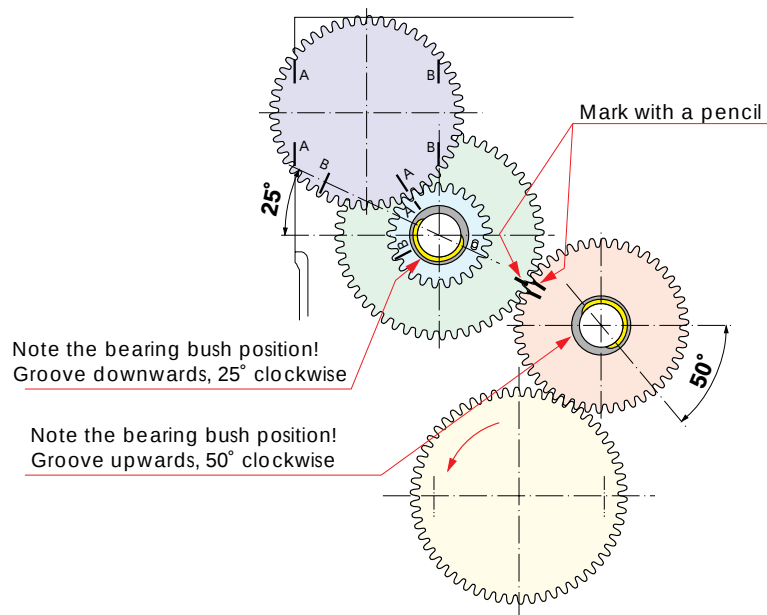
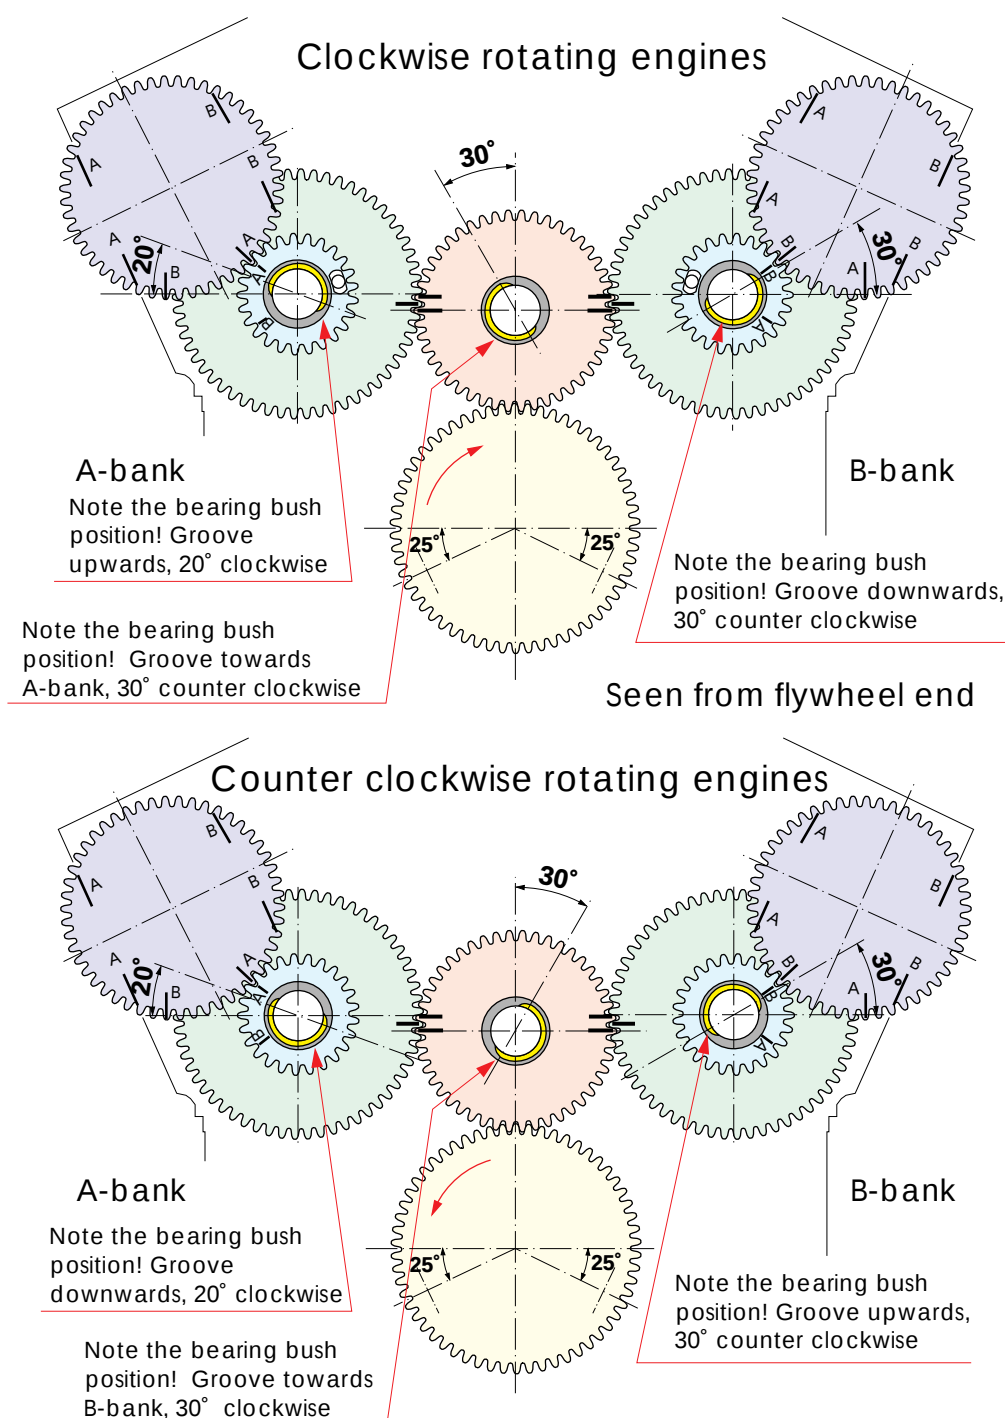

Fig 13-2
Fig 13-3
Note! Insert the intermediate gear wheels and bearing bushes according to the marking of the wheels, see Fig 13-2 and Fig 13-3.
13 To get the intermediate wheels (10) and (3) into the correct position, mark the meshing teeth of both wheels (10) and (3) with a pencil acc. to Fig 13-2 and Fig 13-3. (The wheel (10) can be marked before mounting by marking the third tooth downwards from a line drawn from the centre point of gear wheel (10), through the dowel pin in the wheel (10)).
20 Lift the camshaft driving wheel (12) into position. The marks on the wheels should be aligned with the edge of the engine block according to Fig 13-2 and Fig 13-3.